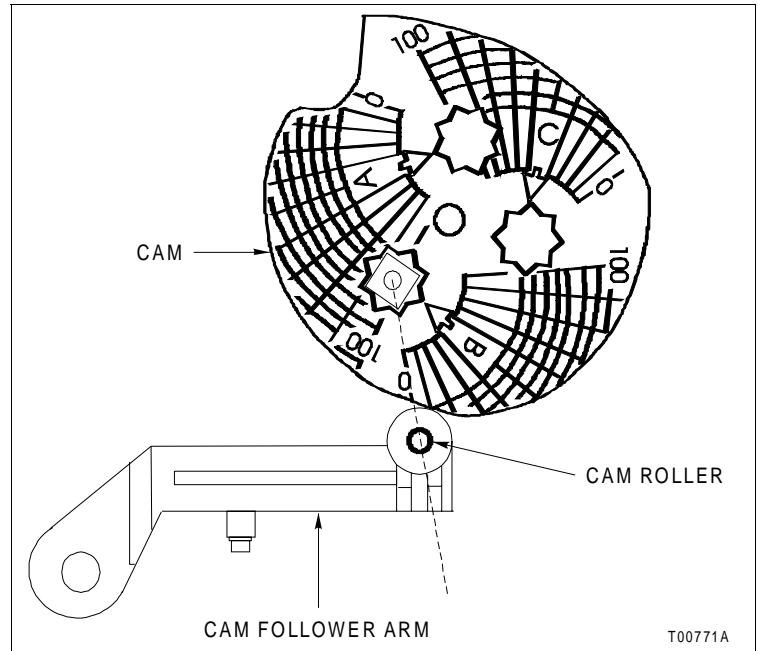

Figure 3-6. Cam Roller Alignment
3. Adjust the connecting linkage so that the zero radial line on the cam intersects the center of the cam roller (Fig. 3-6).